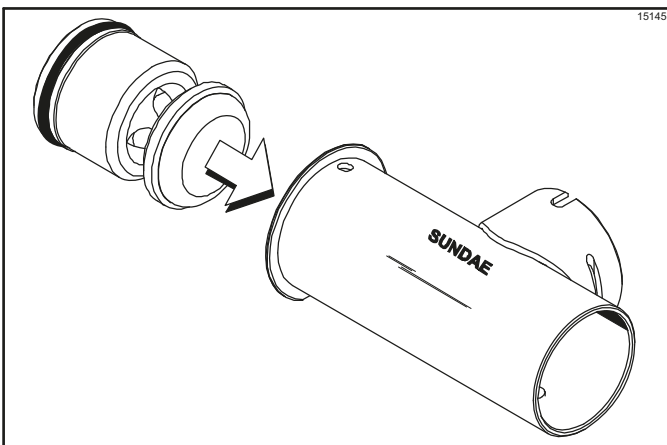

Figure 6-23
4. Insert the piston into the retaining pin hole end of the pump cylinder. (See Figure 6-23.)